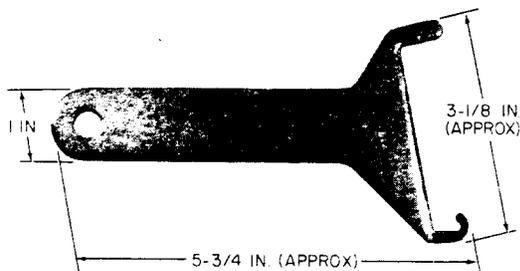

Fig. 1—758A Extractor Tool
2.01 **758A:** The 758A tool (Fig. 1) is used to extract printed wiring boards from the trays in No. 5 Crossbar System.